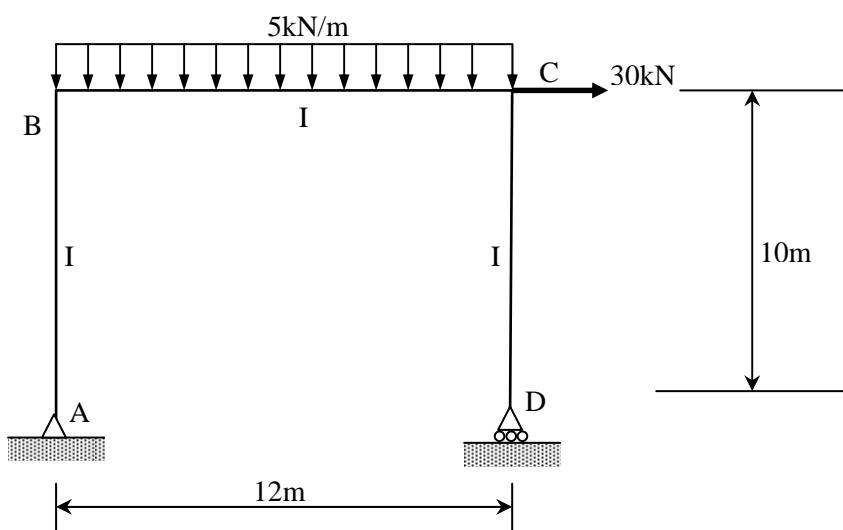

Figure 2
- (b) Figure 2 shows a simple frame which is pinned at A and roller supported at D. A horizontal load 30kN acts at C and a uniformly distributed load 5kN/m acts along BC. It is given that E=200GPa and $I=400\times10^6 \text{ mm}^4$.